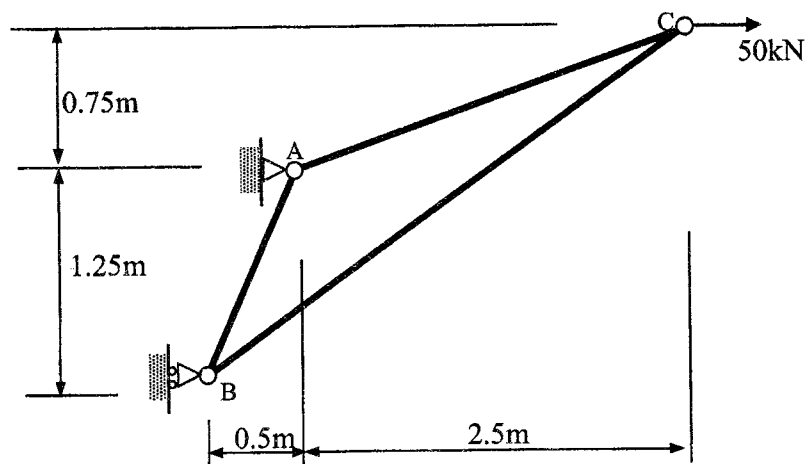

Figure 6
5. [a] Determine the vertical deflection of joint C for the truss shown in Figure 6. $A = 1100\text{mm}^2$ and $E = 200\text{GPa}$ for all members. Use Castigliano's Second Theorem. (10 marks)